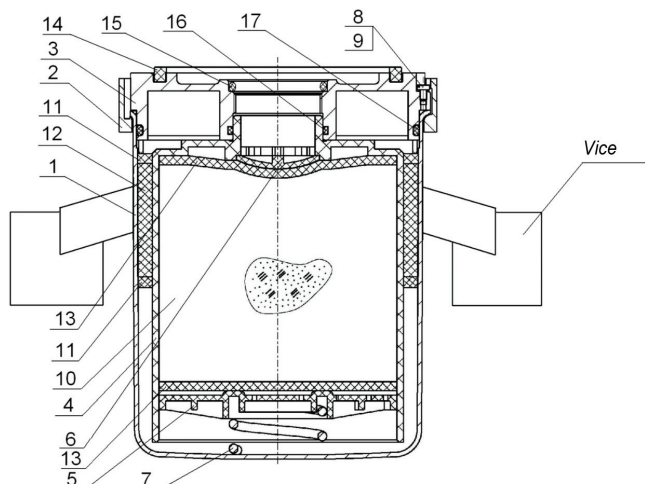

Fig. 23
- disassemble the holder by installing and clamping it in vice with soft pads on jaws to prevent deformation of cap 1, as shown in Fig. 23, Page 58.
Assemble the holder as per Fig. 23, Page 58.